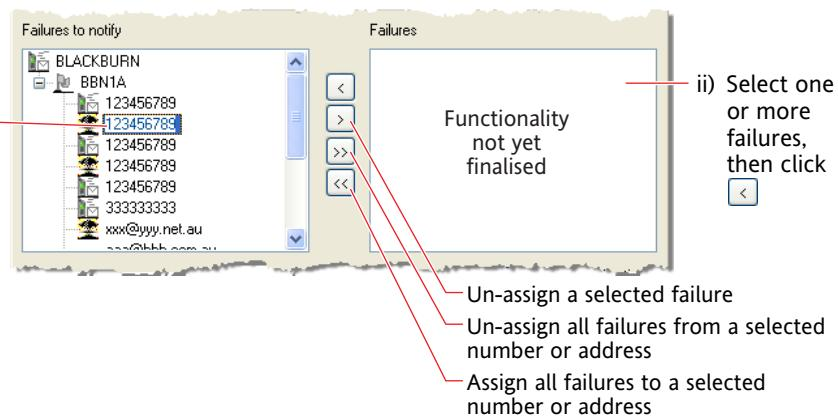

Figure 4.48 Assigning failures to a number or address
- d) For each installation, follow the steps in figure 4.48 to assign types of failures to particular phone numbers or e-mail addresses.